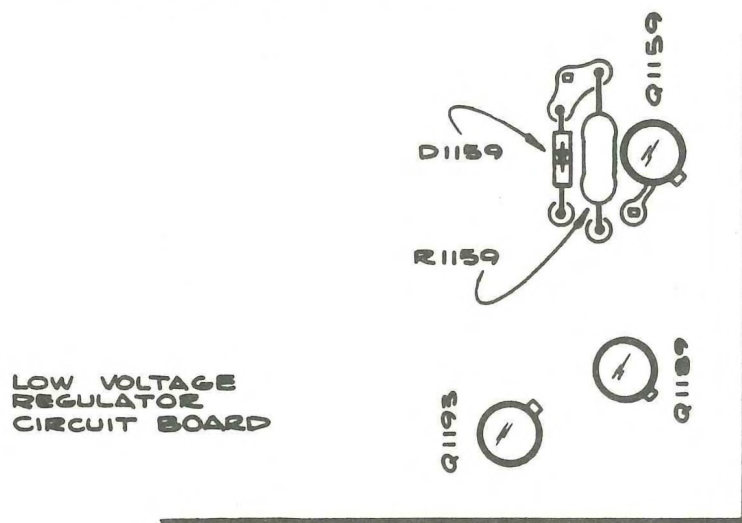

FIG. 1
- 1) Remove D1159 from the Low Voltage Regulator Circuit board located on the top side of the instrument just above the power transformer. See Fig. 1.